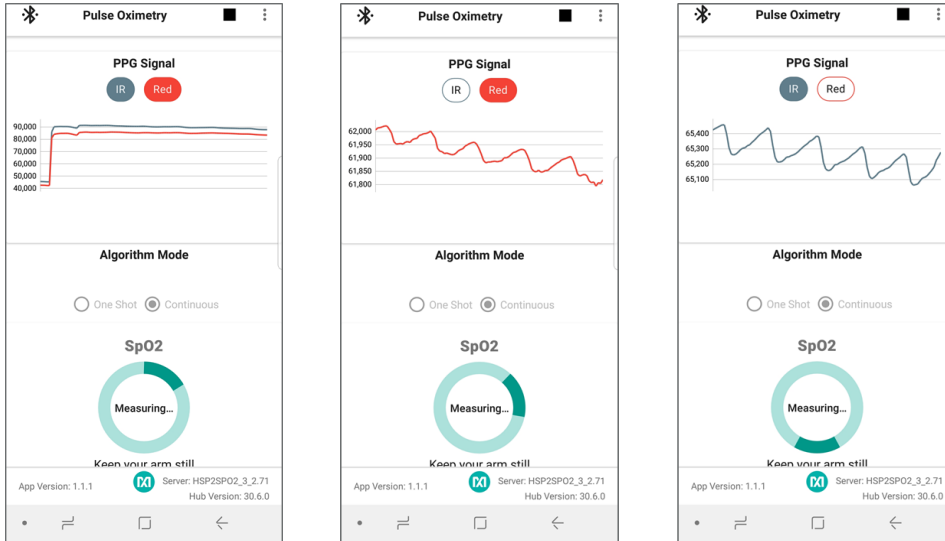

Figure 42. IR and Red signals displayed during the SpO2 measurement.
3. The IR and Red signals are graphed if the **IR** and **Red** buttons are selected. The signals must have peaks and valleys to retrieve a valid SpO2 reading (Figure 42). Adjust the strap tightness or health sensor enclosure position if the waveform is not correct .